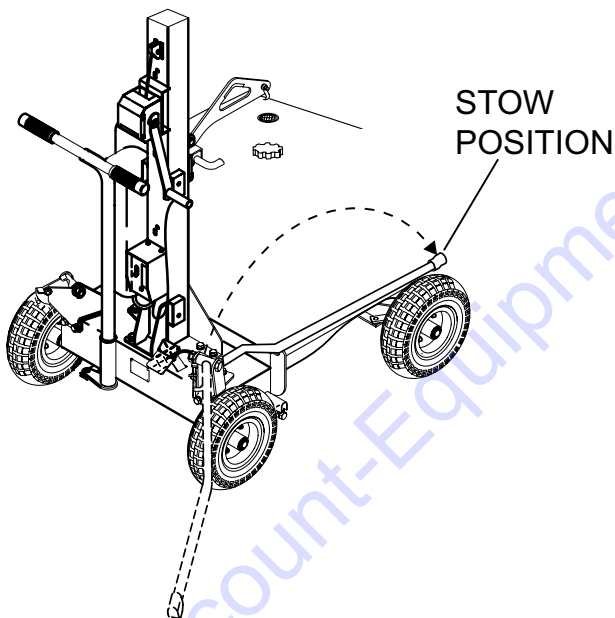

Figure 20. Outriggers (Stow Position)
- Grab hold of outrigger, pull upward, push down and place in stow position (Figure 20).